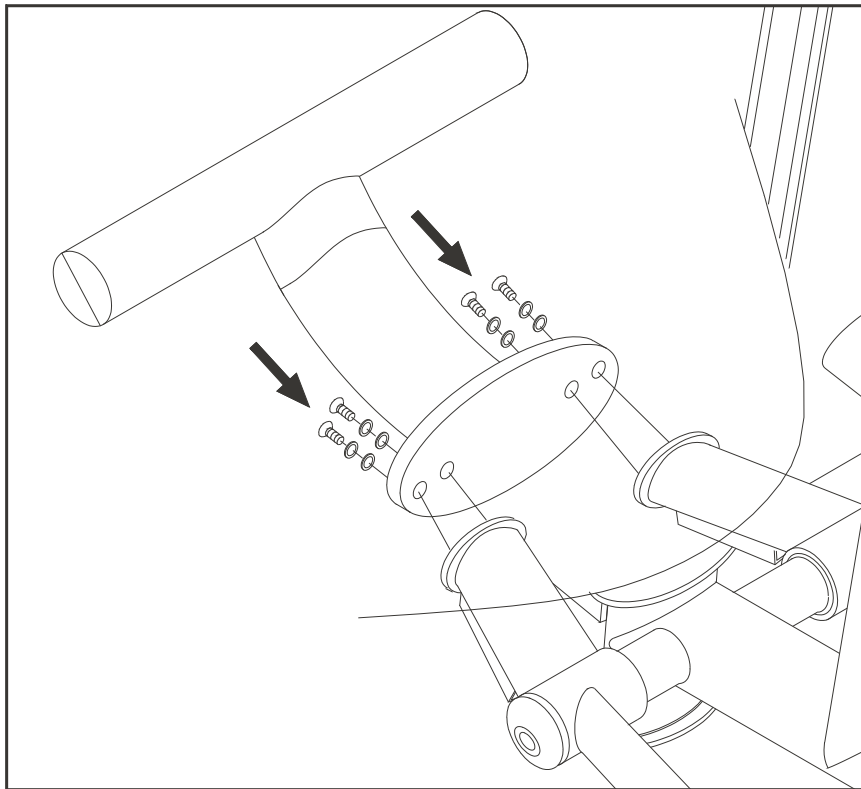

Fig.3
3. Tighten the pedal push assembly and both left and right push rods together with screws as shown in Fig. 3.